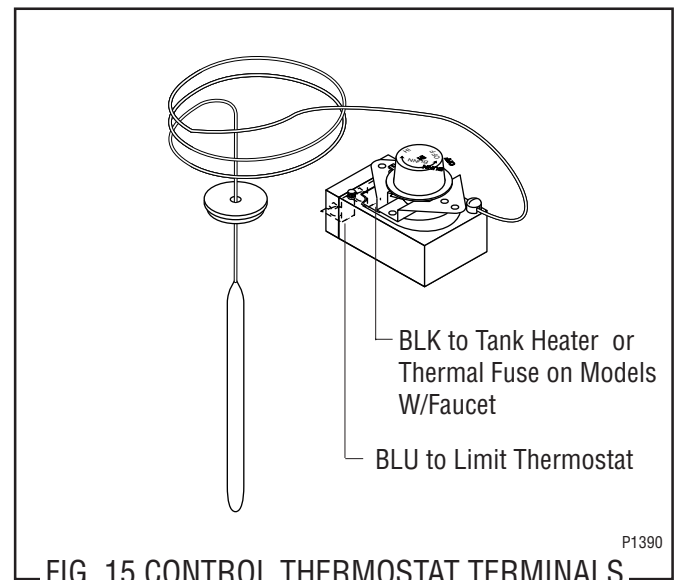

FIG. 15 CONTROL THERMOSTAT TERMINALS
8. Refer to Fig. 15 when reconnecting the wires.